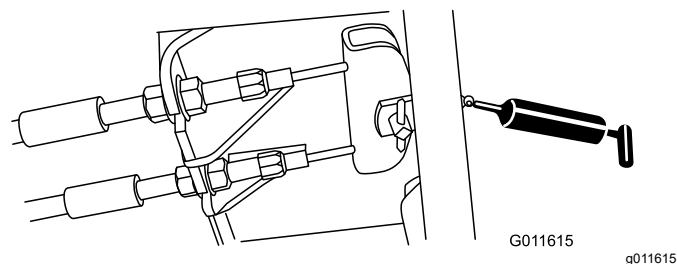

Figure 70
- Pédale de frein (1) – Figure 70